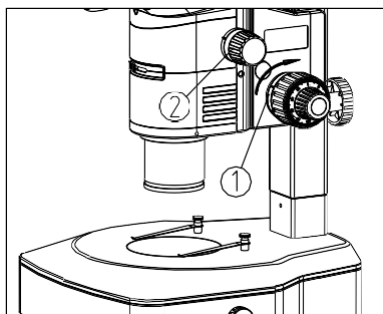

Fig. 15
- 1) If the handle is very heavy when coarse focusing, or the specimen leaves the focus plane soon after focusing, or the stage declines itself, these problems can be solved by adjusting the tension adjustment ring ①. (See Fig. 15)
- 2) Rotate the tension adjustment ring ① according to the arrow direction in the figure, to tighten the focusing system; rotate the tension adjustment ring ① in the opposite direction, to loosen the focusing system.
- 1) Rotate the zoom knob to the maximum magnification. (See Fig. 15)